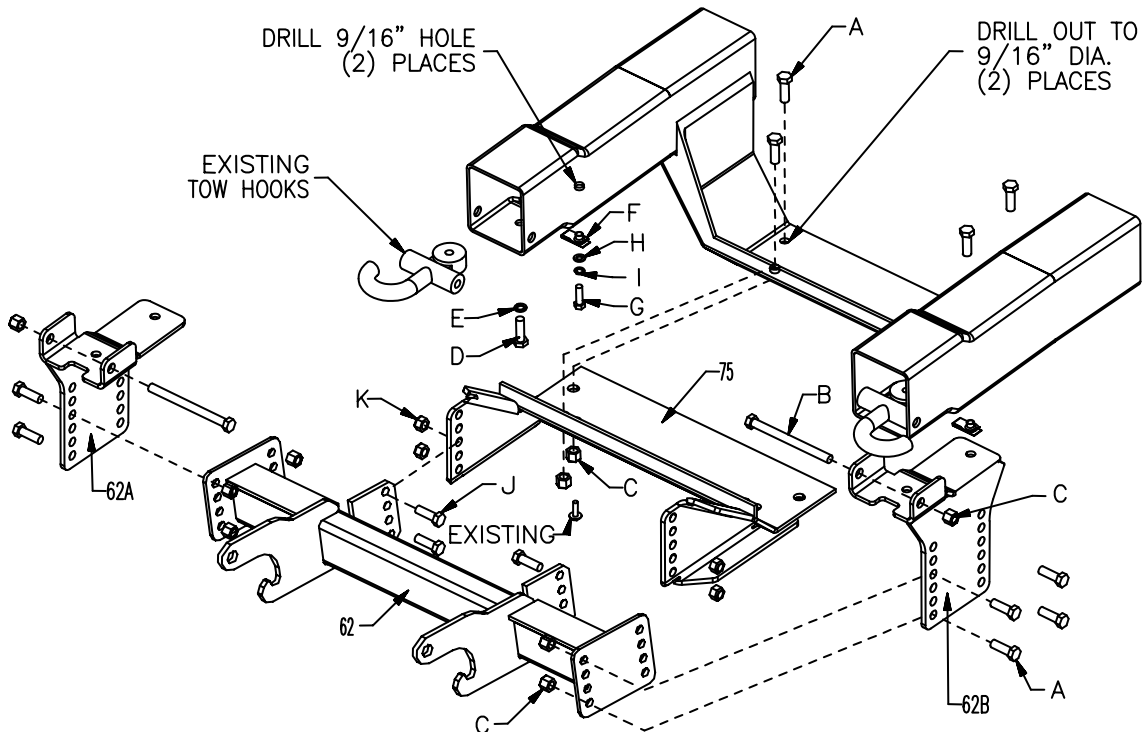
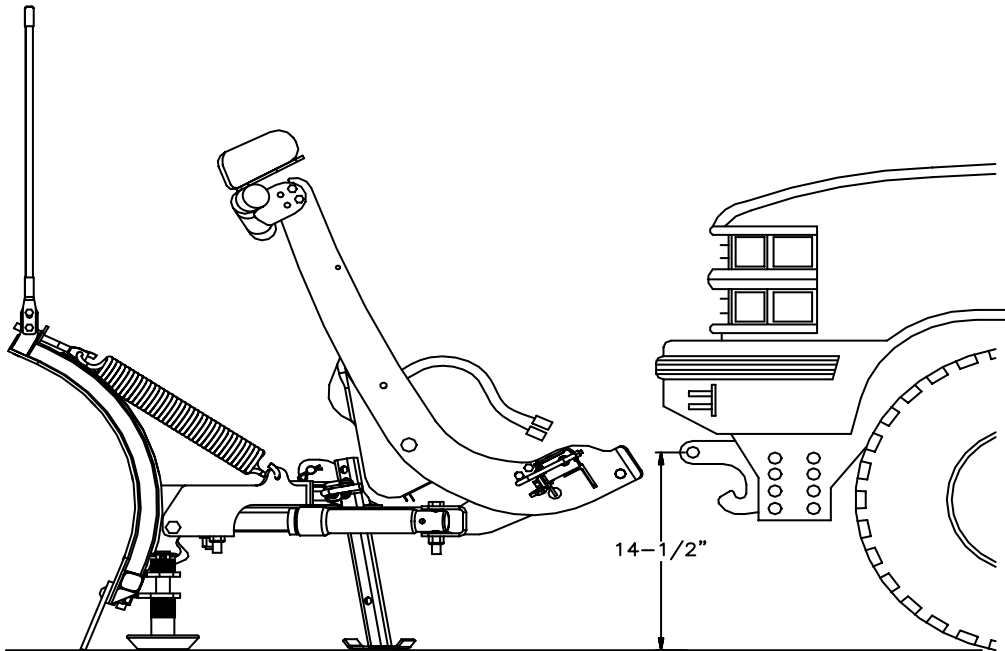

Figure 1
Figure 2
1. Remove the existing tow hook bolt. Note: it may be necessary to remove the front bumper to remove the tow hooks. Position PUSH BEAM SUPPORT PLATE (62A) to the front frame rail of the truck. Use ½"-13x6 bolts (B), ½"-13 self locking nuts (C), M12x40mm hex head bolts (D) and M12 lock washers (E) to bolt PUSH BEAM SUPPORT PLATE (62A) in place. Drill the frame rail for the rear bolt on the PUSH BEAM SUPPORT PLATE (62A). Lower PUSH BEAM SUPPORT PLATE (62A) and insert J-NUT (F). Replace the PUSH BEAM SUPPORT PLATE (62A) and secure using the hardware already mentioned and 3/8"-16x1-1/4 bolts (G), 3/8" lock washers (I), and 3/8" flat washer (H). Fasteners should only be finger tight.
3. Remove the existing plastic engine guard from the bottom front of the vehicle. Remove the four existing bolts holding the skid plate in place on the vehicle. Drill out the rear two existing positions in the vehicle crossmember as shown in Fig. 1, the bottom of the plastic engine guard and the front of the skid plate to 9/16". Using ½"-13x1-½" bolts (A) and ½"-13 self locking nuts (C) mount ANGLE BRACKET (75) into place under the plastic engine guard and the skid plate. The plastic engine guard will need to be slotted for ANGLE BRACKET (75). Bolts should only be finger tight. The plastic engine guard will be re-attached to the crossmember in step 6. Re-install the bumper if removed in step 1.
4. Bolt PUSH BEAM (62) in place using ½"-13x1-½" hex head bolts (A) and ½"-13 self locking nuts (C). Fasteners should only be finger tight. Use ½"-13x1-½" grade 8 bolts (J) and ½"-13 grade 8 self locking nuts (K) to attach the ANGLE BRACKET (75) to PUSHBEAM (62) with at least 2 bolts on each leg.
NOTE: The proper height adjustment for the PUSH BEAM (62) is approximately 14-½" from the ground to the center of PUSH BEAM (62) hook receiving hole (See Figure 2). It may be necessary to cut two small slots in the bottom of the plastic air dam to provide relief for the pushbeam support plates and the pushbeam.